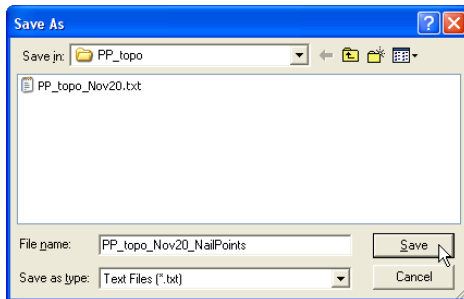

Figure 2-10. Save Control Point Information to a Text File
3. To save the information as a text file, click **File ► Save as**, enter a name and select a location for the file, then click **Save** (Figure 2-10).